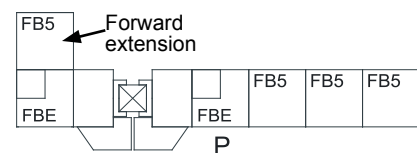
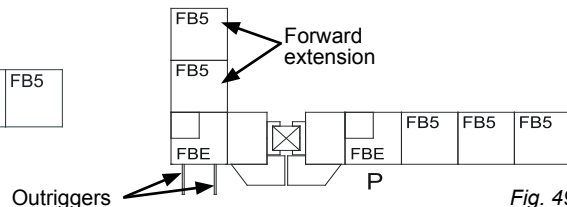

Fig. 48
Fig. 49
The forward extension bridge can be used to store tools, such as a cutting saw, and is assembled using a regular bridge and the optional forward extension kit, which includes an outrigger and three forward extension plate assemblies. The forward extension bridge can be attached to any power pack bridge or to the first bridge assembly closest to the mast in the setup, as shown in fig. 48 and fig. 49.
- 7- If required, use the forward extension to store counterweight material or install top outriggers and planking on the opposite end of the bridge assembly (fig. 48 and 49) and apply counterweight.